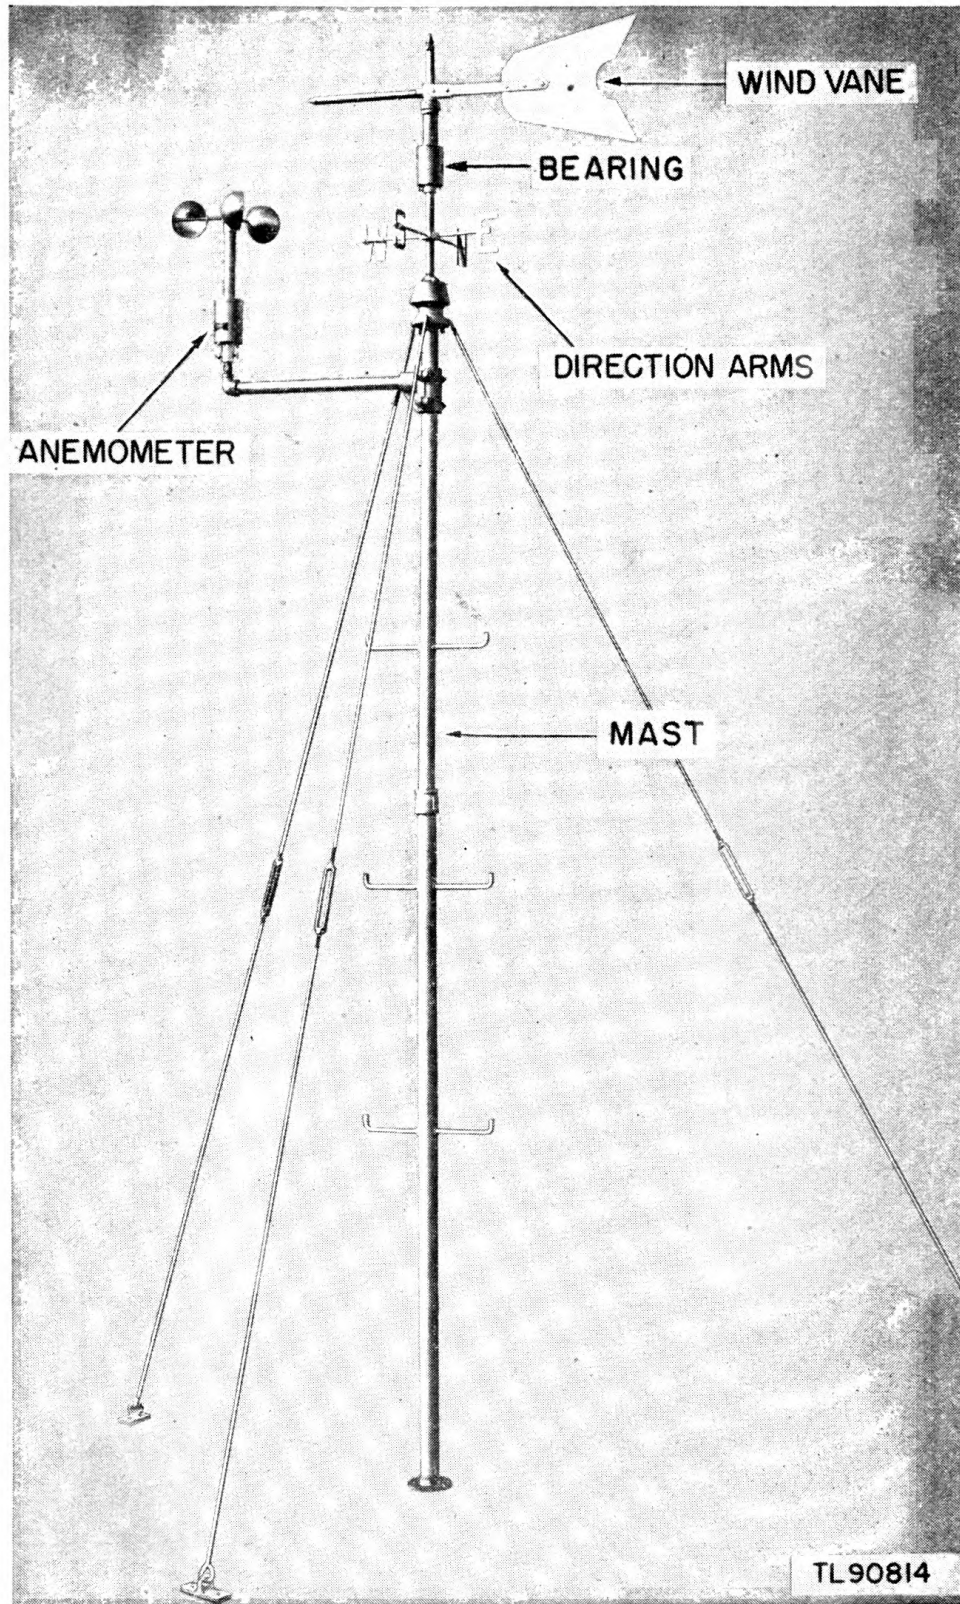

Figure 14. Support ML-29-D with Anemometer ML-80-A.
25. LIST OF COMPONENTS. a. Support ML-29-D (fig. 14). Support ML-29-D consists of the following components:
- (2) One Bearing ML-129-D.
- (3) One set direction arms.
- (4) One wind vane.
b. Anemometer ML-80-A (fig. 14). Anemometer ML-80-A weighs 5 pounds, and consists of the following components:
- (1) One cup rotor.
- (2) One spindle and housing, with gear mechanism.
b. Mast. (1) The mast (fig. 14) consists of two sections of galvanized iron pipe joined together by a coupling. The bottom section screws into a base. An extended arm for the support of the anemometer is clamped to the side of the top section. A mast head fits on the top of the mast. Three guy rods, each consisting of two sections joined by a turnbuckle, are hooked to this mast head. The lower end of each guy rod is hooked to a guy rod